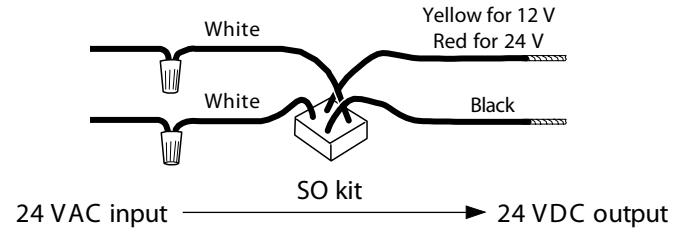

Figure 4
- When using 12 VAC or 24 VAC power, install SO kit to convert AC power to DC (Figure 4).